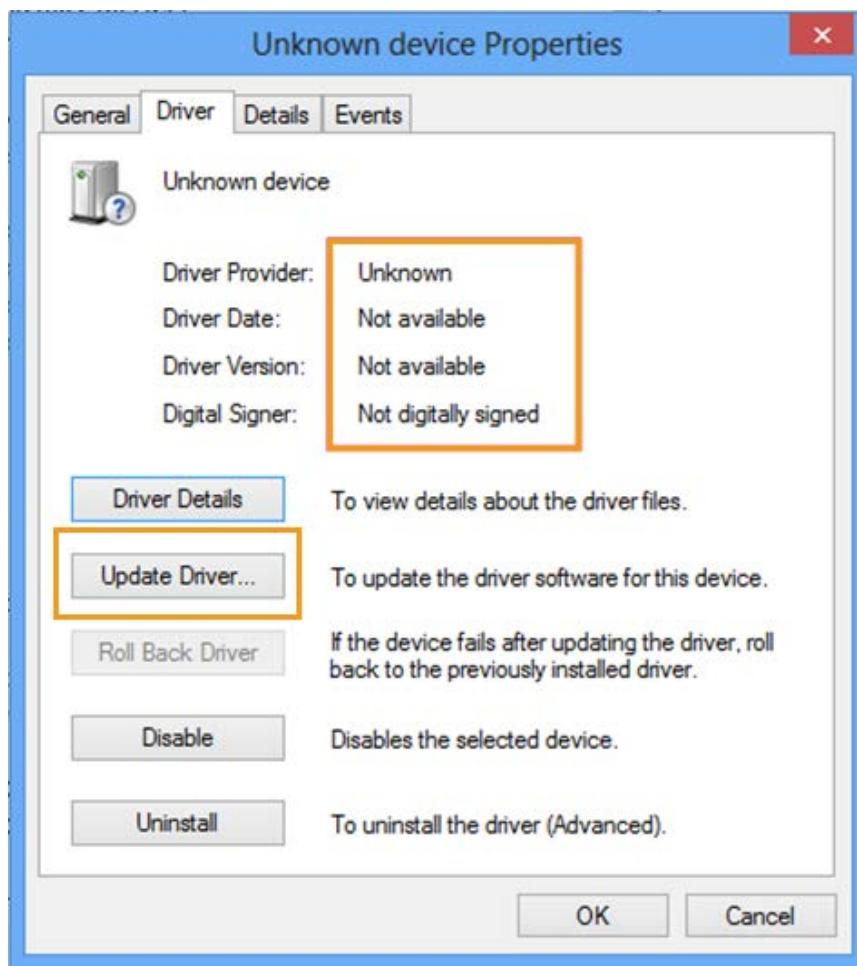

Figure 14. Unknown device on Windows 8 or later
- 45) An **Unknown device** will show under **Universal Serial Bus Controllers**. Double click the **Unknown device** and click **Update Driver...** (see Figure 14).